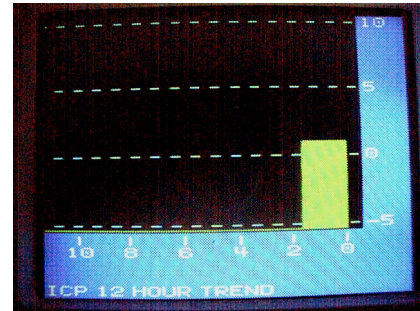
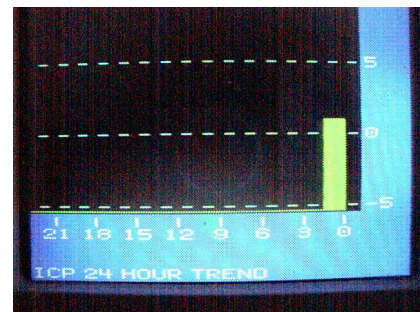

Figure 2-9 12 Hour Trend
Figure 2-10 24 Hour Trend
9. Press the **TREND** button to display the mean ICP and CPP value recorded during the preceding 12 hours (Figure 2-9). With the next press of the trend button, the mean ICP and CPP for the preceding 24 hours will be displayed (Figure 2-10). Press again to return to the pressure display. To clear trend, turn MPM-1 off momentarily.